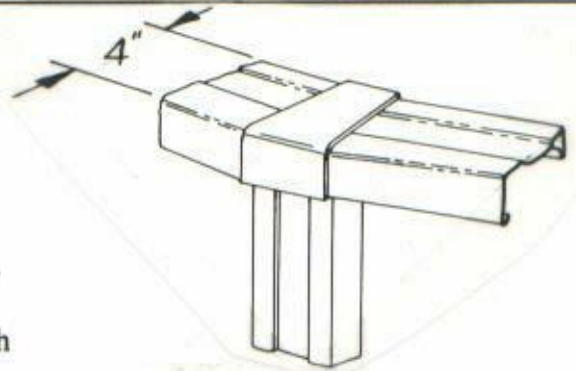

FIGURE 1
- You will need at least two (2) people to install the Sun Dome. On larger pools, (24' - 28'), you may need more help to install the rafters and the vinyl dome.
- The Sun Dome is meant to be installed on a pool with a ledge four (4") inches wide or wider. See Figure 1.